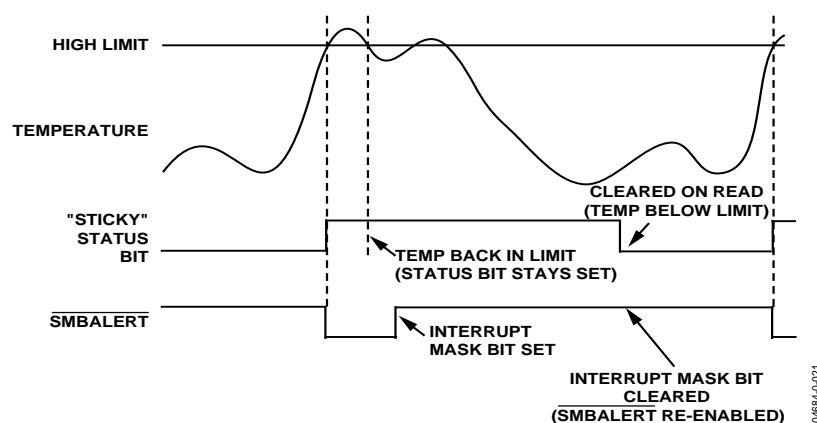

Figure 16. How Masking the Interrupt Source Affects SMBALERT Output
7. Periodically poll the status registers. If the interrupt status bit is cleared, reset the corresponding interrupt mask bit to 0. This causes the SMBALERT output and status bits to behave as shown in Figure 16.